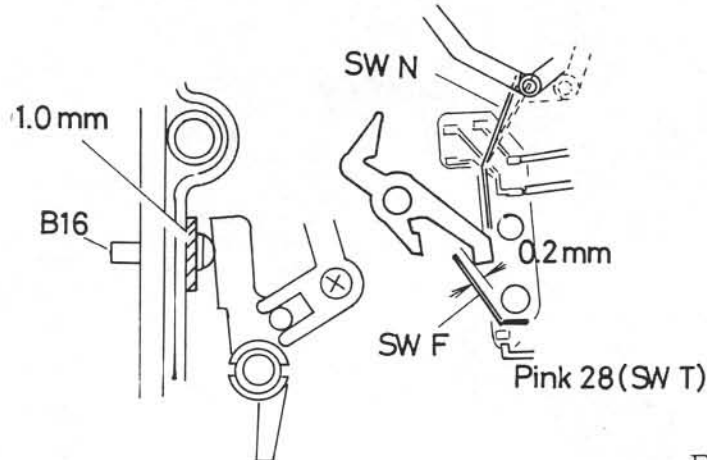

Fig. 41
2. There should be approx. 0.2mm clearance as shown in Fig. 41 right when a 1.0mm washer is installed between the Film chamber casting and B16 as shown in Fig. 41 left.